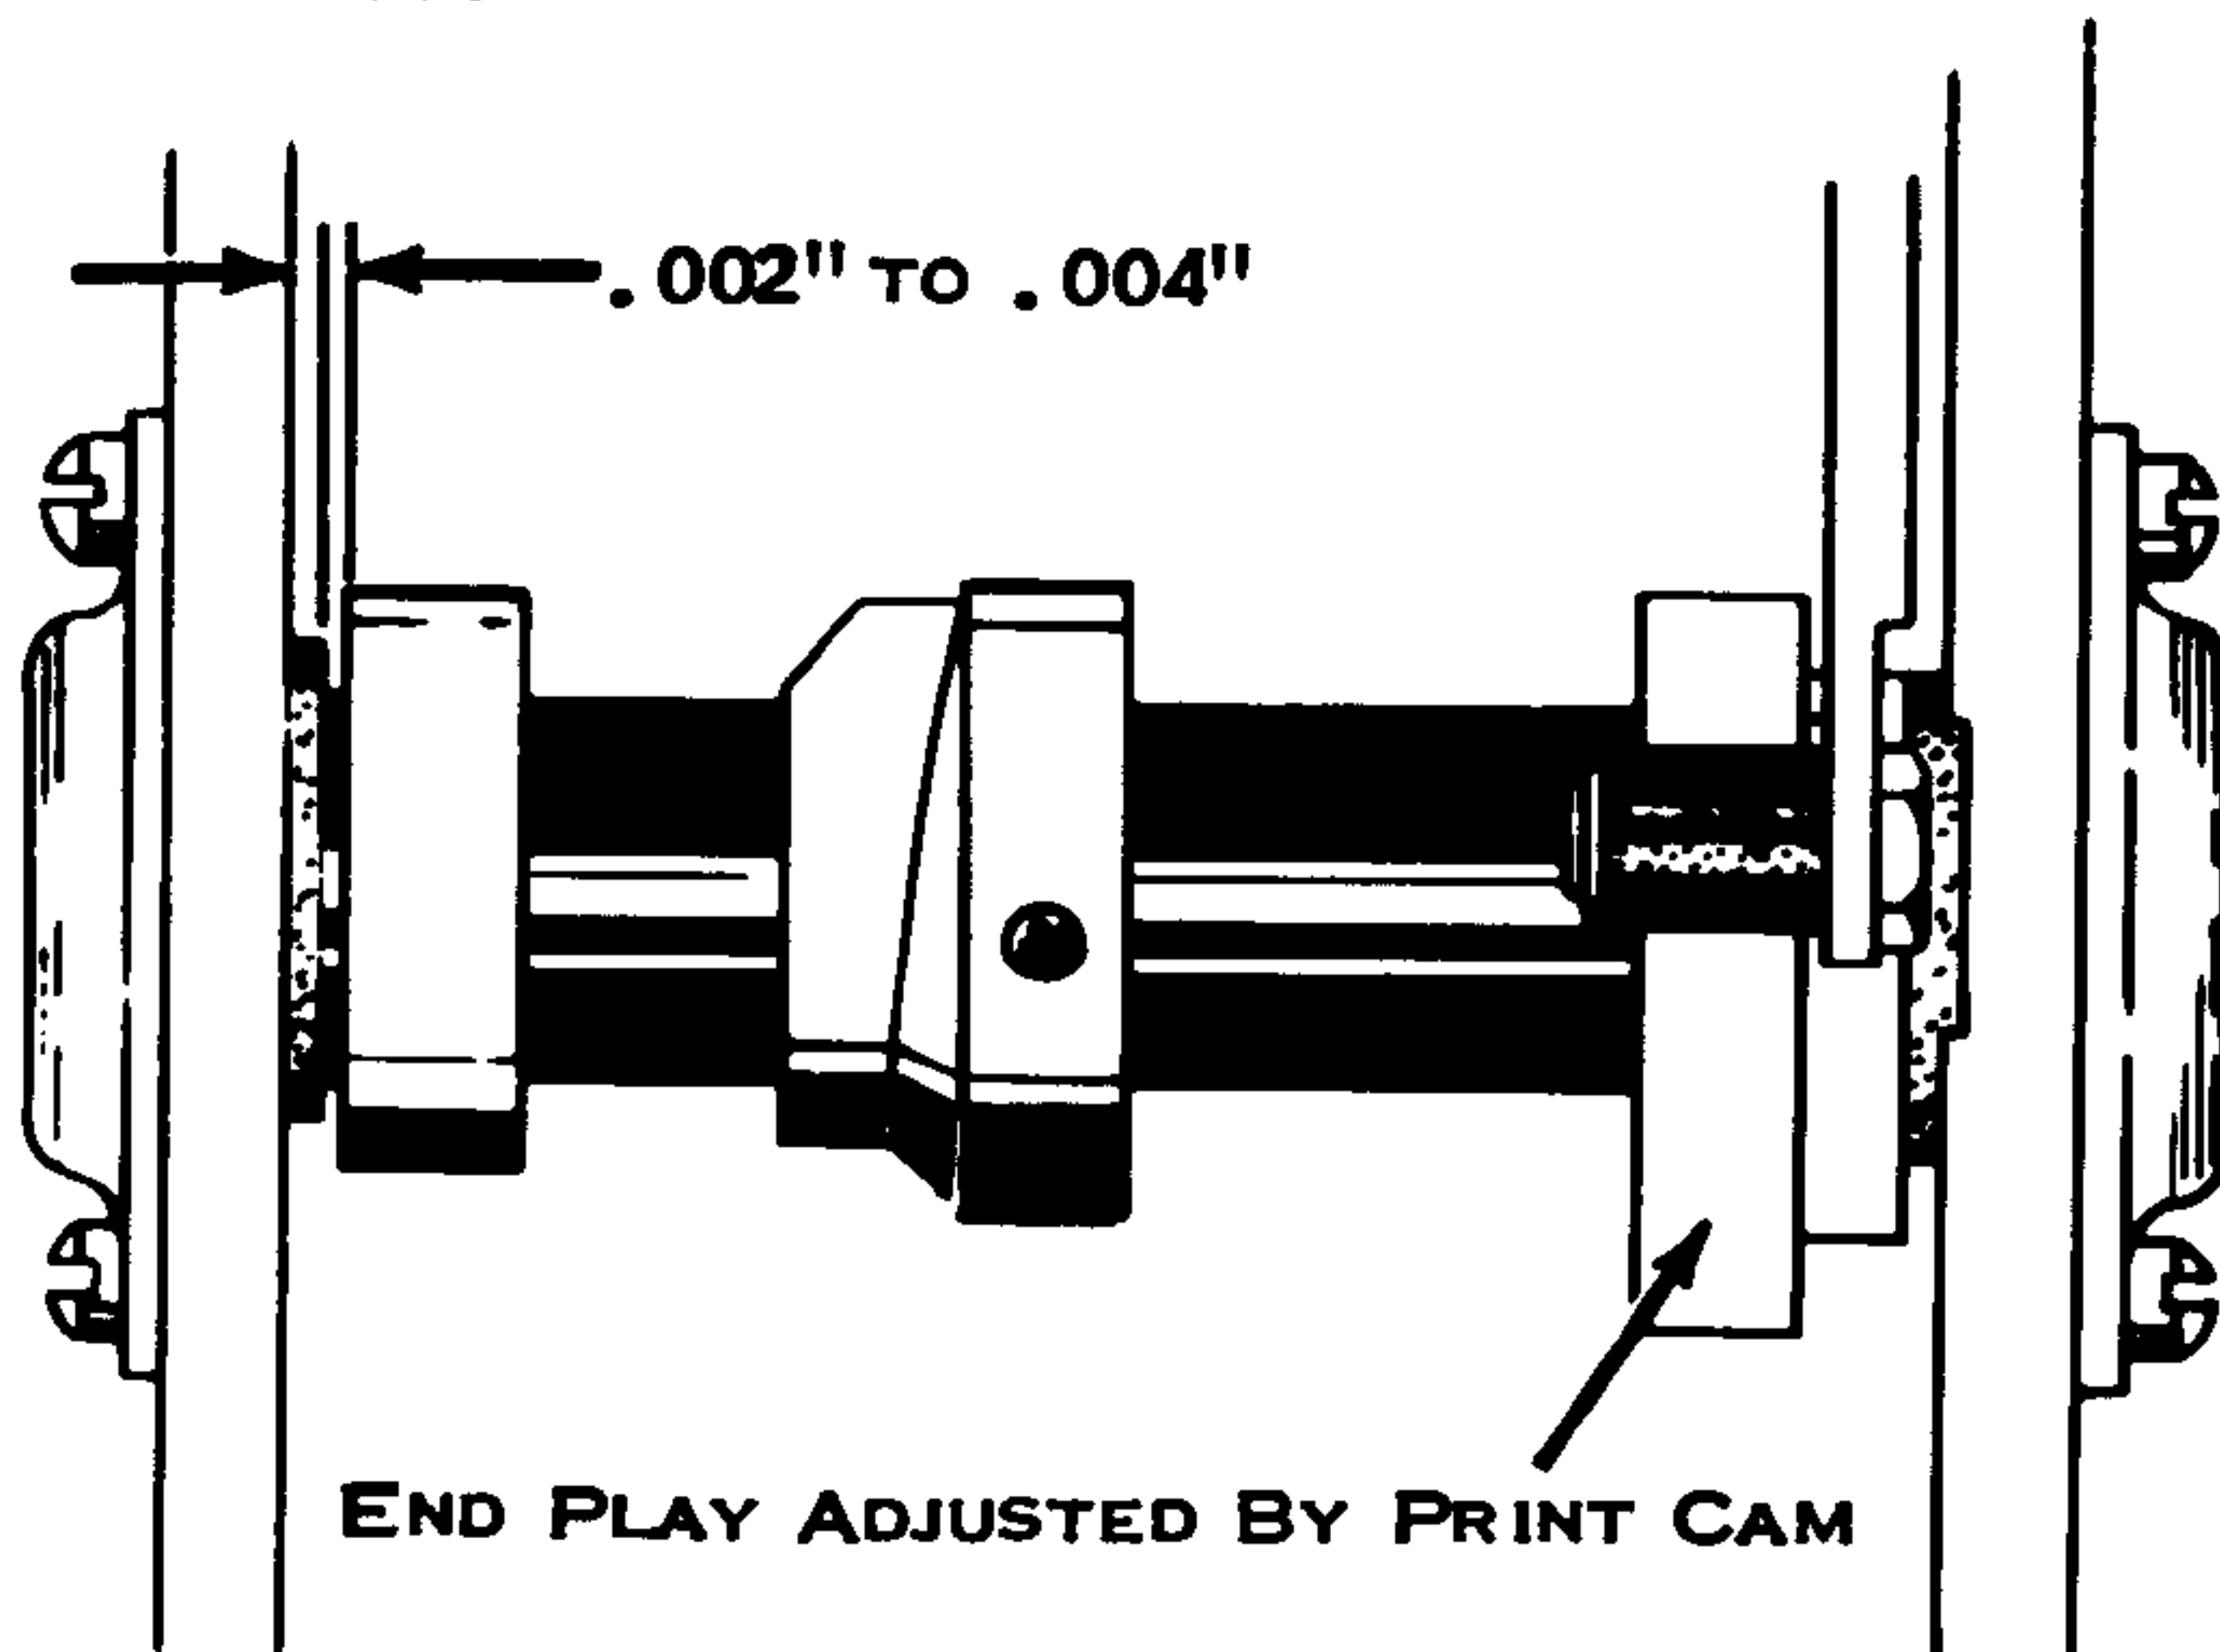

Figure 65. Print Sleeve End Play
7. Print Sleeve End Play (Fig. 65) - Adjust for .002" to .004" end play by positioning the print cam. NOTE: The center punch mark on the ribbon lift cam should be in line with the keyway on the cam sleeve.